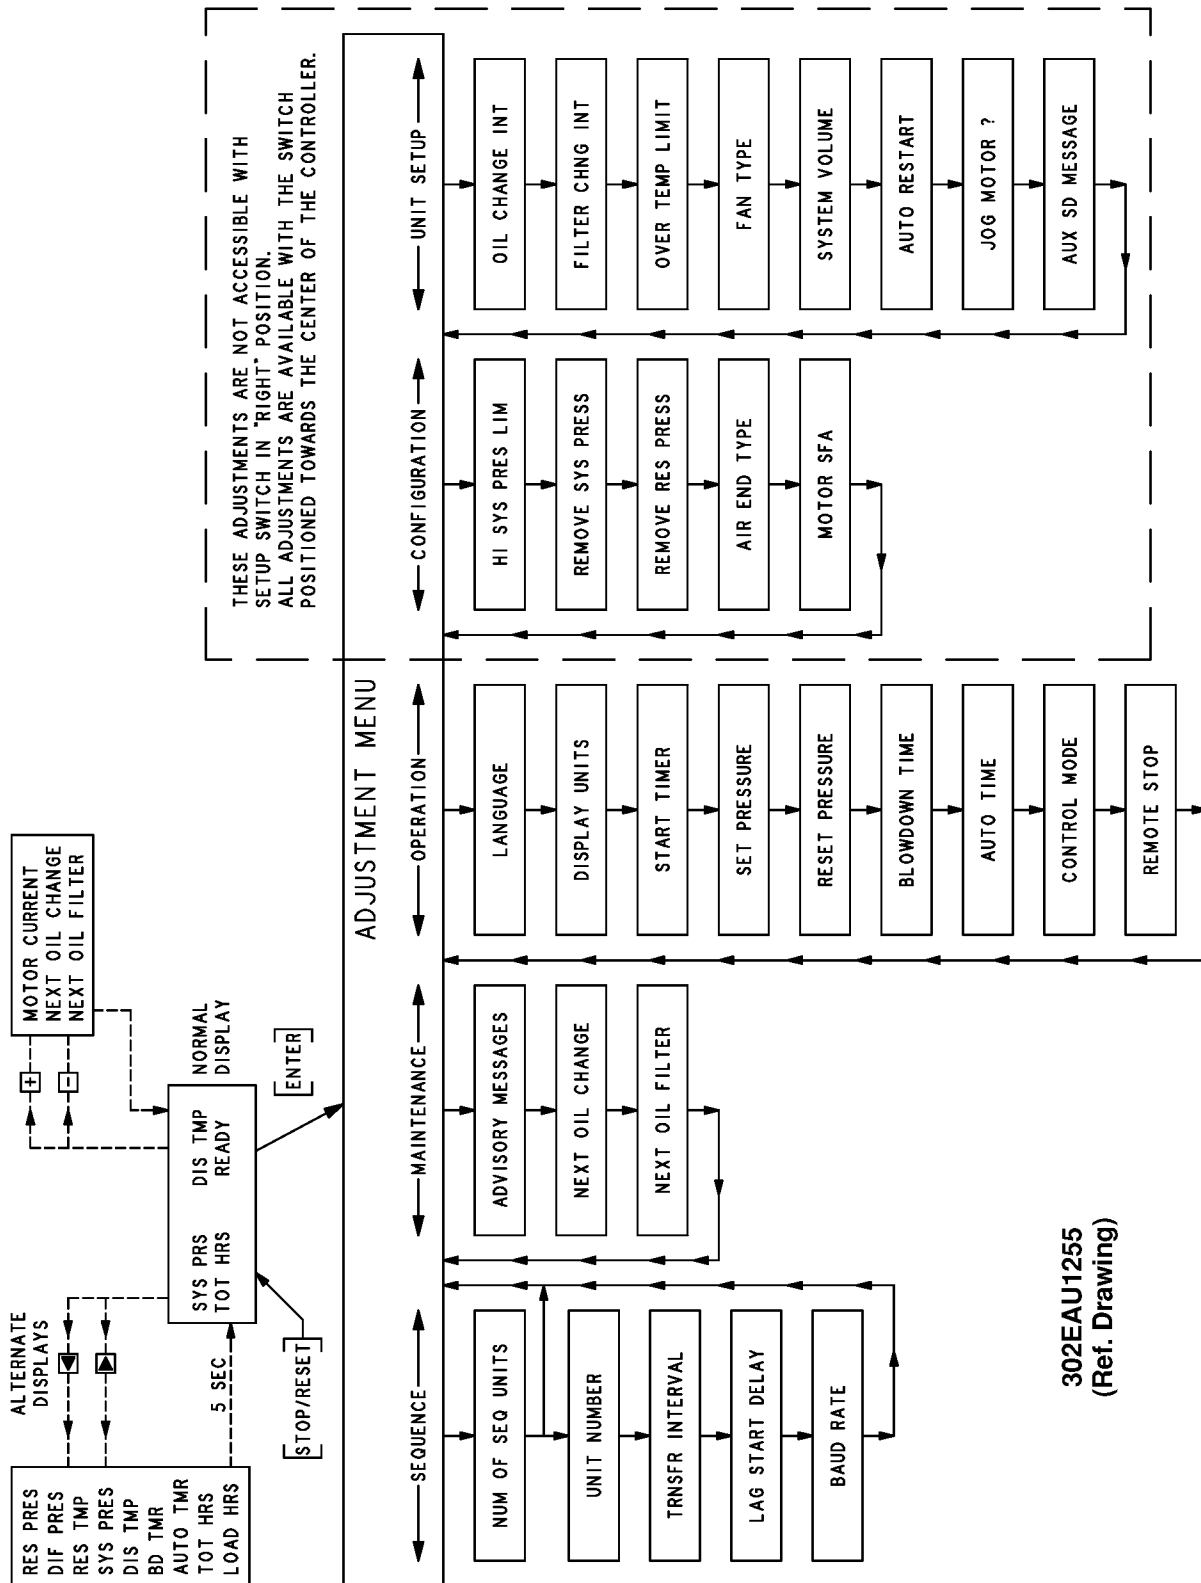

FIGURE 1-2 – FLOW CHART FOR SET-UP PROGRAMMING – AUTO SENTRY-ES+
2. Press the [ENTER] key to begin programming. This enters the adjustments menu. The adjustments are broken into five groups as shown in FIGURE 1-2, page 5. To select a group, press [+] or [-] until the desired group is shown on the bottom line of the display. Press [ENTER] to proceed to the group adjustments detailed below.